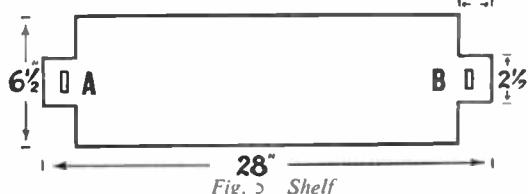
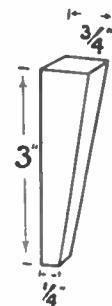

Fig. 5 Shelf
Fig. 6 Peg
For each of the four shelves, take the $\frac{1}{2}$ in. wood, 28ins. by 6½ins., and cut it as in Fig. 5. The holes (A) and (B) are to receive wooden pegs. Each peg should be cut from a piece of the $\frac{1}{2}$ in. wood, and measures 3ins. by $\frac{1}{2}$ in. Taper gradually to $\frac{1}{2}$ in., so that the peg can be inserted half way in the hole (Fig. 6).